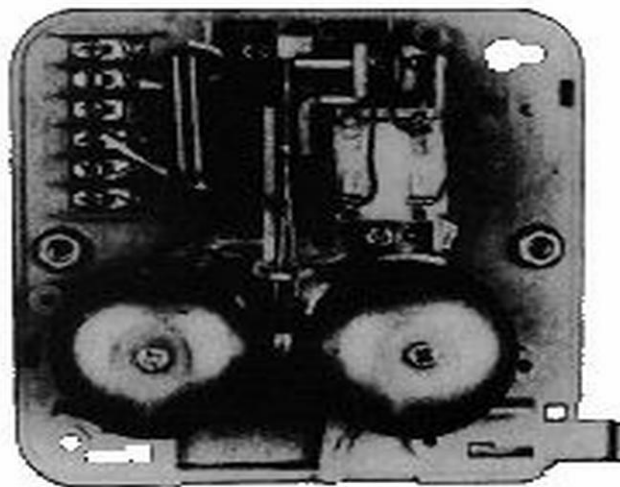

Figure 3. Ringer Box Baseplate Equipped With
2.01 The box (Figure 1) consists of a plastic baseplate with a molded-in terminal strip (Figure 2) and a plastic housing. When assembled, the box is 5¼ inches high, 5½ inches wide, and 2½ inches deep. The box can be equipped with straight-line, superimposed, or harmonic ringers. Figure 3 shows a Type 48 straight-line ringer assembled on the baseplate. The ringer capacitor on the ringer assembly is replaced by a cold cathode tube when superimposed ringing is desired. The box also has a terminal strip molded into the base. At this terminal strip, the ringer wiring, modular jacks, modular plugs, and telephone line cord are connected. This terminal strip eliminates the need for a line cord connecting block.